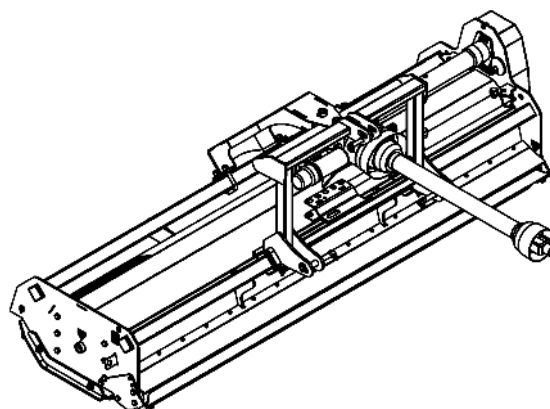

Figure 1.10
- 1.5.1.18 The machine is now ready for front mounting, see Figure 1.10.